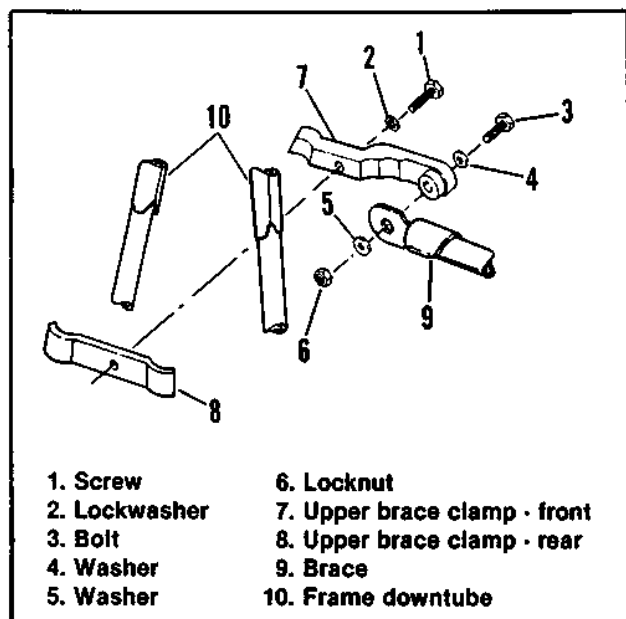

Figure 2. Front Upper Mount
2. See Figure 2. Detach brace (9) by removing bolt (3) nut (6) and washers (4) and (5).
3. Remove upper brace clamp front (7) and rear (8) by first removing bolt (1) and lockwasher (2).
#### INSTALLATION (Figure 2)